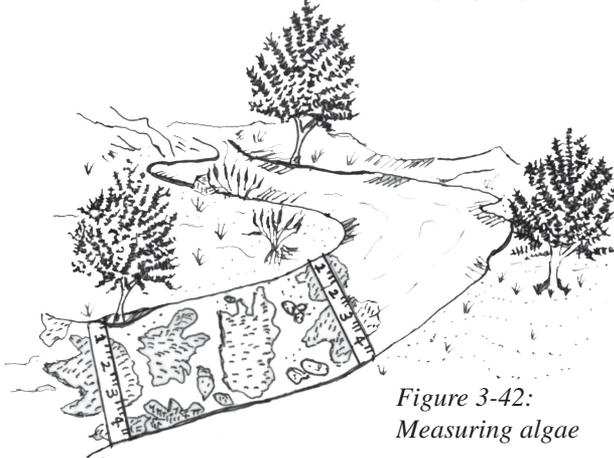

Figure 3-42:
4. Extend the stadia rod (stick used to measure stream depth) or a tape measure at a 90 degree angle across the stream. The stadia rod or tape measure should be inline with the upstream stake (Figure 3-42).
5. While standing directly above the stadia rod or tape measure, calculate the amount and types of algae the stadia rod or tape measure passes through for transect 1 (Figure 3-42). Note: Use the Algae picture identification cards and descriptions to identify algae types.